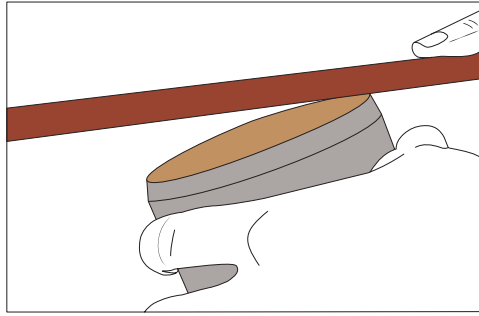

Figure 5 Level soil with top of sample ring
- Use a knife or scissors to cut the protruding material from the top and the bottom sides of the soil sample ring so both covers fit on each end (Figure 5).